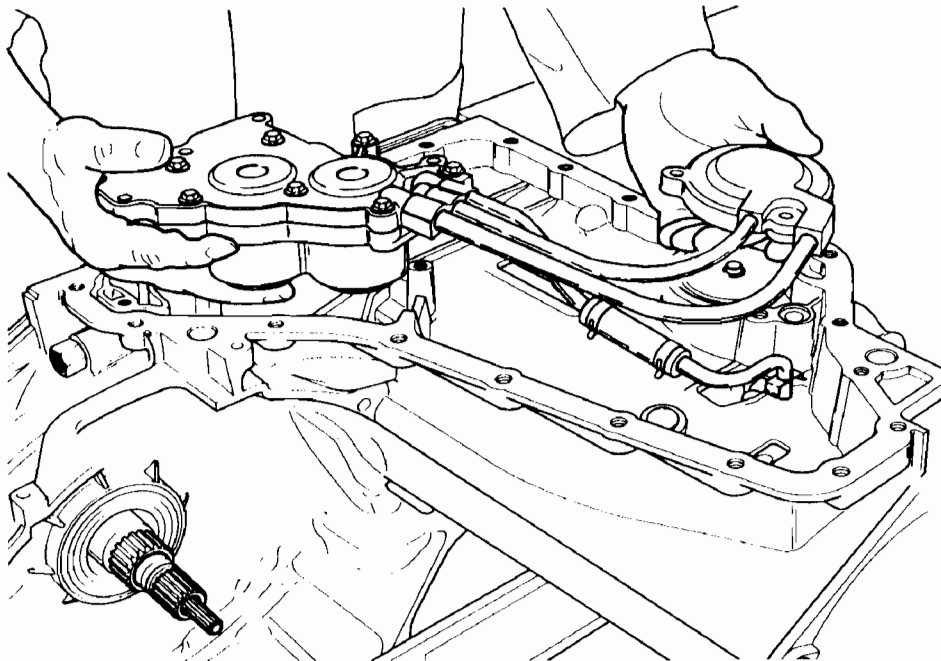

Figure 3
**CORRECTION:** Install the tubes into the accumulator housing cover with the 2-1 manual servo apply pipe in the "Center" hole, as shown in Figure 3, and the rear lube pipe in the right hand hole, as shown in Figure 3. The forward servo apply pipe cannot be installed in the wrong hole as it is a larger diameter than the other two.
*Figure 3 shows the "Correct" assembly of the pipes.*